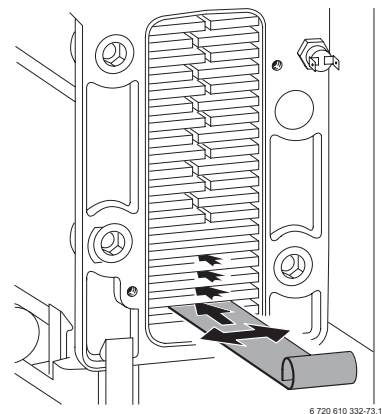

Fig. 51
- ▶ Loosen any deposits in the heat exchanger from top to bottom using the cleaning blade. Refer to fig. 51.